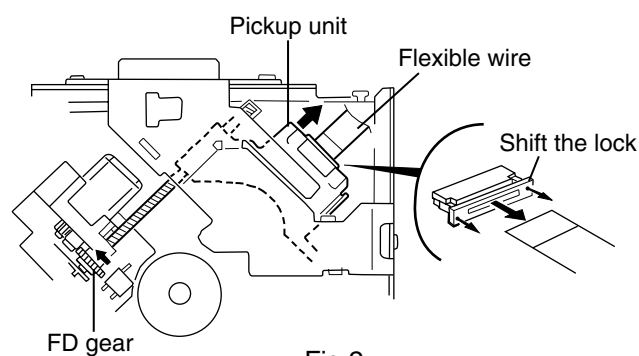

Fig.2
**ATTENTION:** Turn the FD gear in the direction of the arrow to move the entire pickup unit to the appropriate position where the flexible wire of the CD mechanism unit can be disconnected easily (Refer to Fig.2).